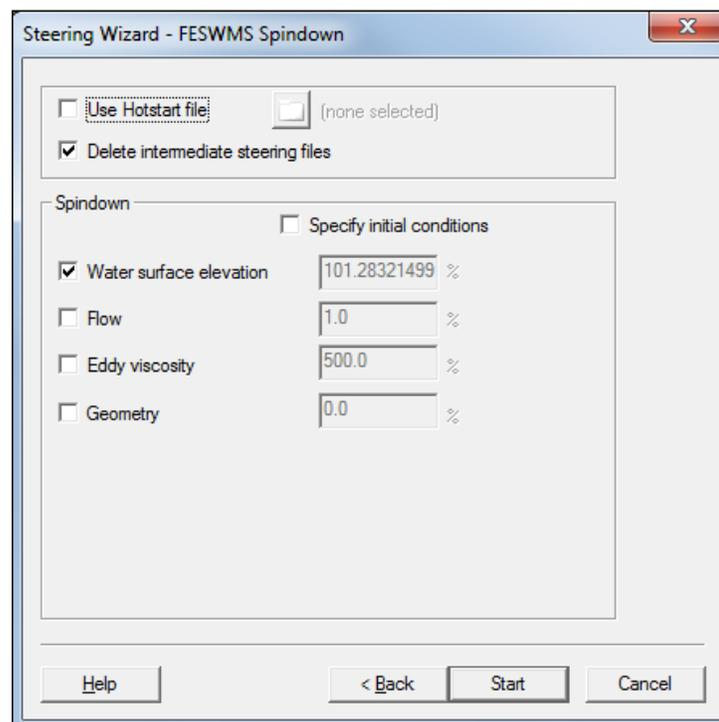

Figure 7 Steering Module dialog
4. In the *Spindown* section, turn on *Water Surface Elevation* (Figure 7).